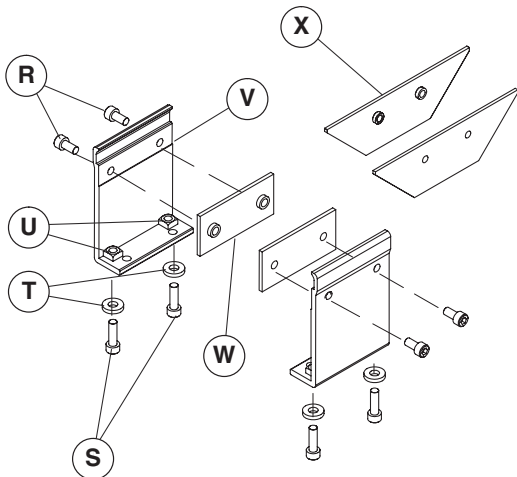

Figure 8
1. Typical mounting bracket components (Figure 8)
2. Attach clamp plate (Figure 8, item W or X) to stand mounting bracket (V) with two screws (R). Do not tighten screws.